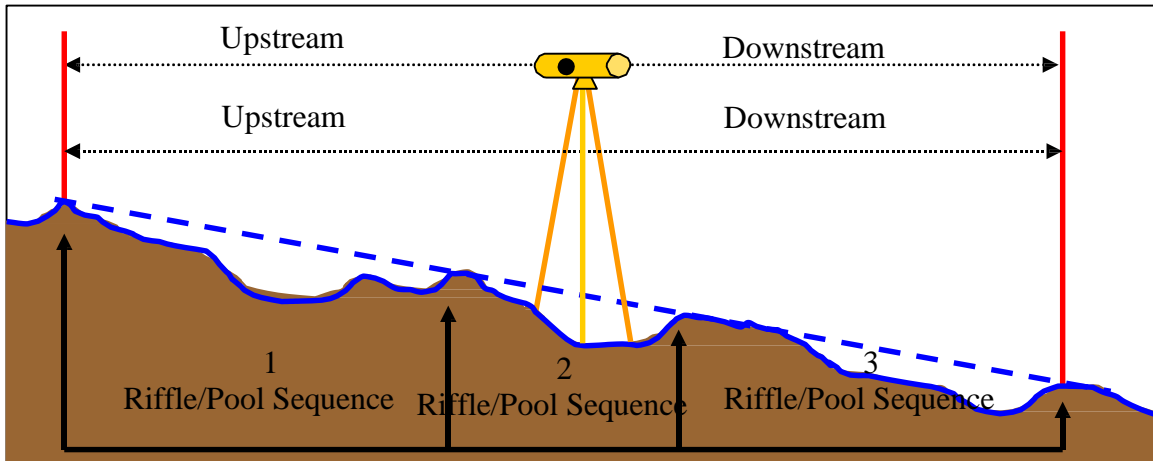

Figure 10 – Measuring slope
- Note:** Ideally the distance between the two readings would include at least two riffle pool sequences (Figure 10). If this cannot be achieved from the location on the bank where the level is set to read the cross section (e.g. brush obscures line of sight, creek bends, etc.), wait until you've completed surveying the cross section then move the level to a location that allows a better view both up and downstream - this may be in the channel itself rather than on the banks (Option 2).
- Locate the furthest riffle upstream of the cross section that is within your line of sight. Measure, along the centerline of the bankfull channel*, the distance from the cross section to the beginning of that riffle (Figure 10). This is your **Upstream Distance** — record it on the data sheet.
person takes a reading of the stadia rod with the level (Figure 10). This is your **Upstream Reading** — record it on the data sheet.
- Similarly, locate the furthest riffle downstream of the cross section that is within your line of sight, and repeat the same steps to measure your **Downstream Distance** and **Downstream Reading** (Figure 10) — record those on the data sheet.